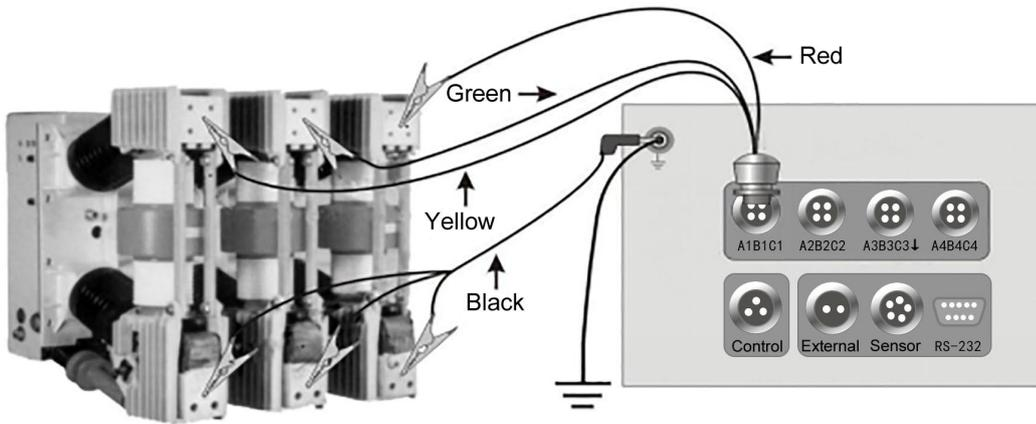

Figure 9. Three switches wiring
① Three switches wiring of circuit breaker is shown in Fig 9
Solution: After shutting down, refer to the above figures 9 and 10 to re check the wiring.